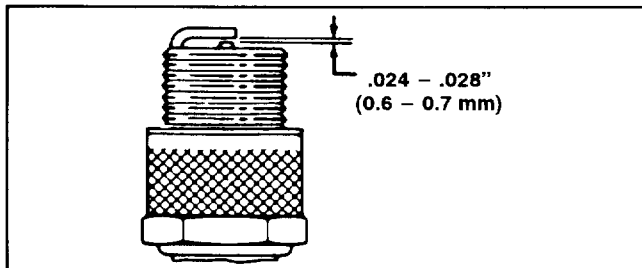

Figure 17
REPLACING SPARK PLUG (Fig. 17)
3. Set air gap at .024 – .028" (0.6 – 0.7 mm) as shown in Figure 17. Install correctly gapped spark plug and gasket seal. Tighten plug firmly to 9 ft–lb (1.2 Kg–m).